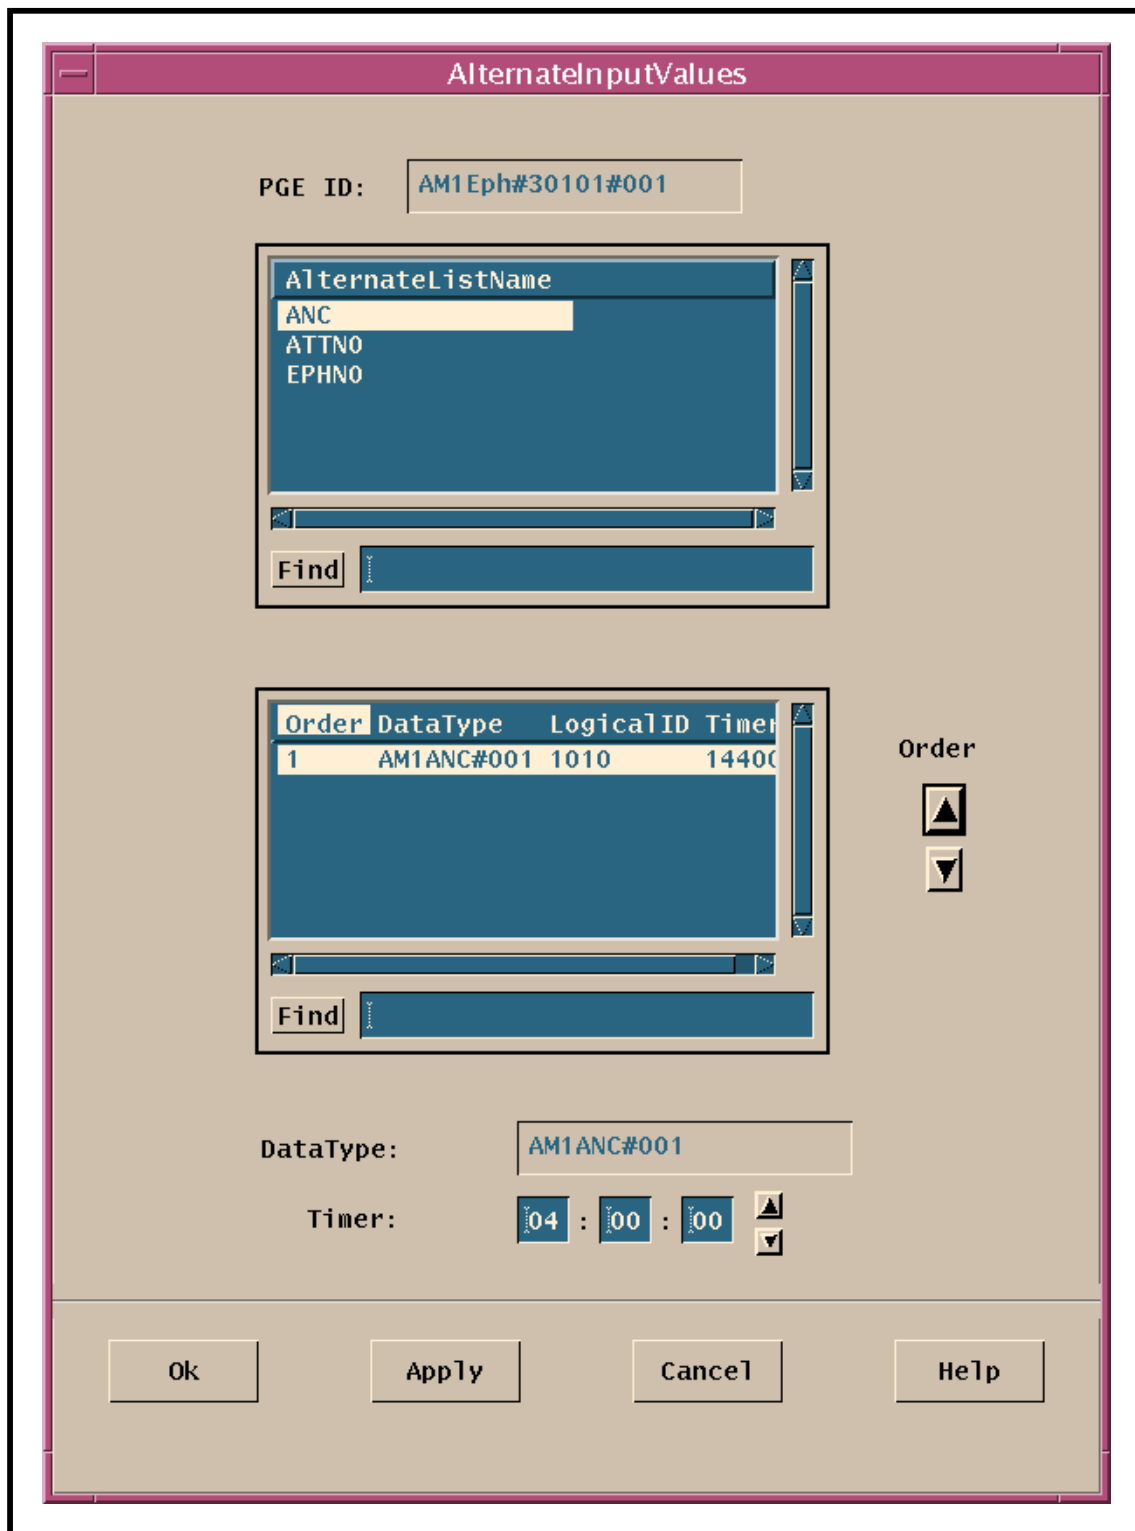

Figure 21. AlternatInputValues GUI
- The **AlternateInputValues** GUI page (Figure 21) is displayed.